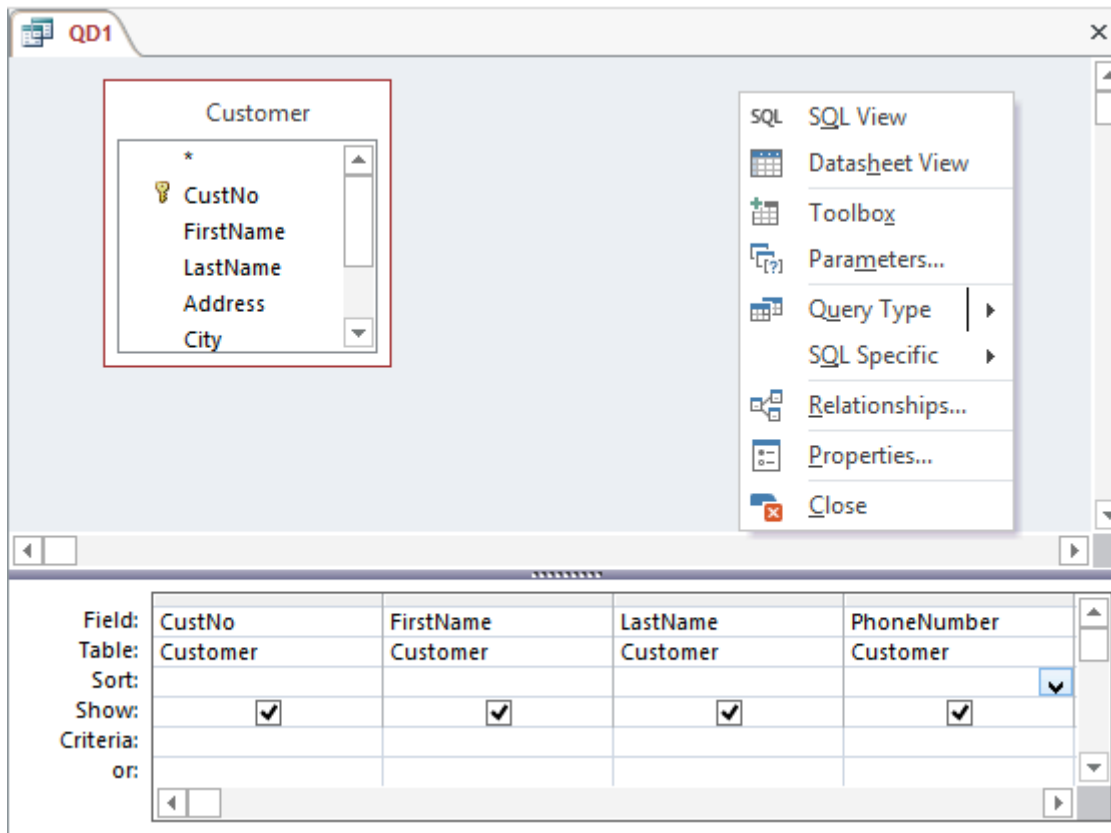

Figure 50: Design View and the Right Mouse Shortcut Menu Showing **Properties...**
- To open the Query Properties window, right-mouse-click in an empty area in the Query Design pane and choose **Properties...** (Figure 50).